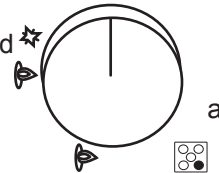

fig. 5
- Turn the knob (fig. 5) corresponding to the selected burner in a counter-clockwise direction so that the knob is at MAXIMUM (this corresponds to large flame).
- Turn the knob (fig. 5) corresponding to the selected burner in a counter-clockwise direction so that the knob is at MAXIMUM.